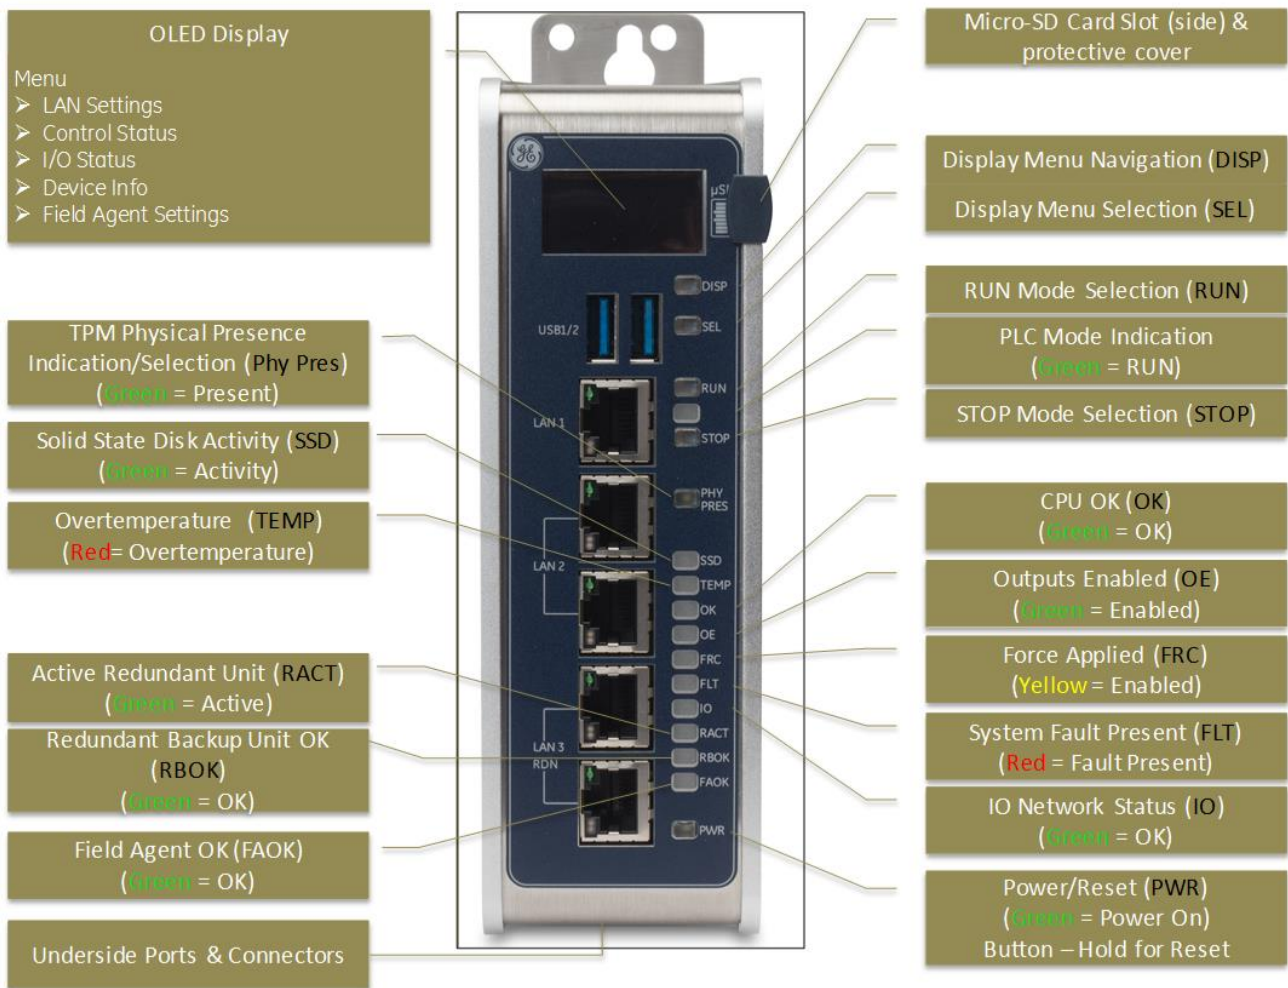

Figure 2: CPE400 Front View and Features
The physical features of the CPE400 are shown in Figure 2 and Figure 3.
- Supports four independent 10/100/1000 Ethernet LANs. Three are located on the front panel, as shown in Figure 2. LAN1 attaches via the upper, dedicated RJ45 connector. LAN2 and LAN334 each attach via a pair of internally-switched RJ45 connectors. The fourth LAN, labeled EFA (Embedded Field Agent), is an RJ45 port located on the underside (Figure 3), and is a dedicated Field Agent port.
The monochrome organic light-emitting diode (OLED) display (Figure 2) is used to display operating system menus. It measures 34.5 x 23 cm and displays 128 dots horizontally and 64 dots vertically. It interacts with the DISP pushbutton, which jogs the cursor from one menu item to the next, and with the SEL pushbutton, which activates the currently indicated menu item for further action.
Two USB ports, using standard USB Type A connectors (Figure 2), are located on the faceplate below the OLED display.